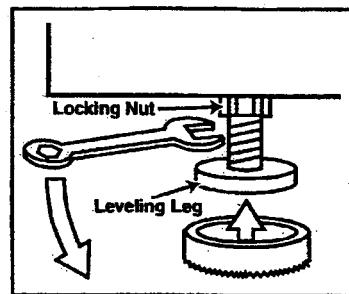

**Figure 1-1**
- a. Locate the metal buckles securing the red straps extending through slots in the rear wall of the cabinet. The buckles are positioned in the center of the red straps. Carefully cut the red straps, completely removing the metal buckles. **NOTE: Cut the straps as close to the buckles as possible.** Discard the metal buckles (*Figure 1-1*).